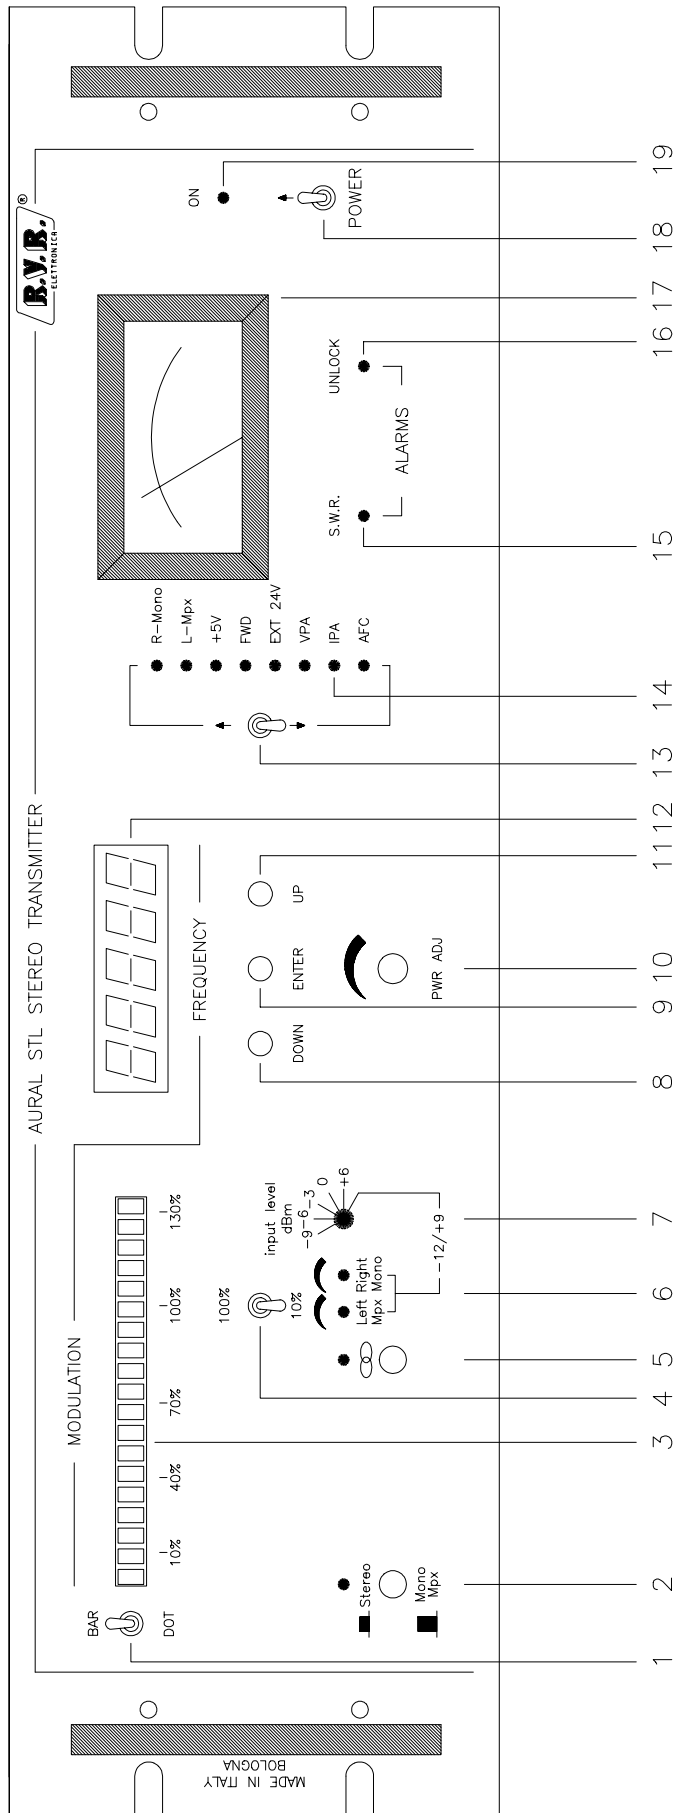
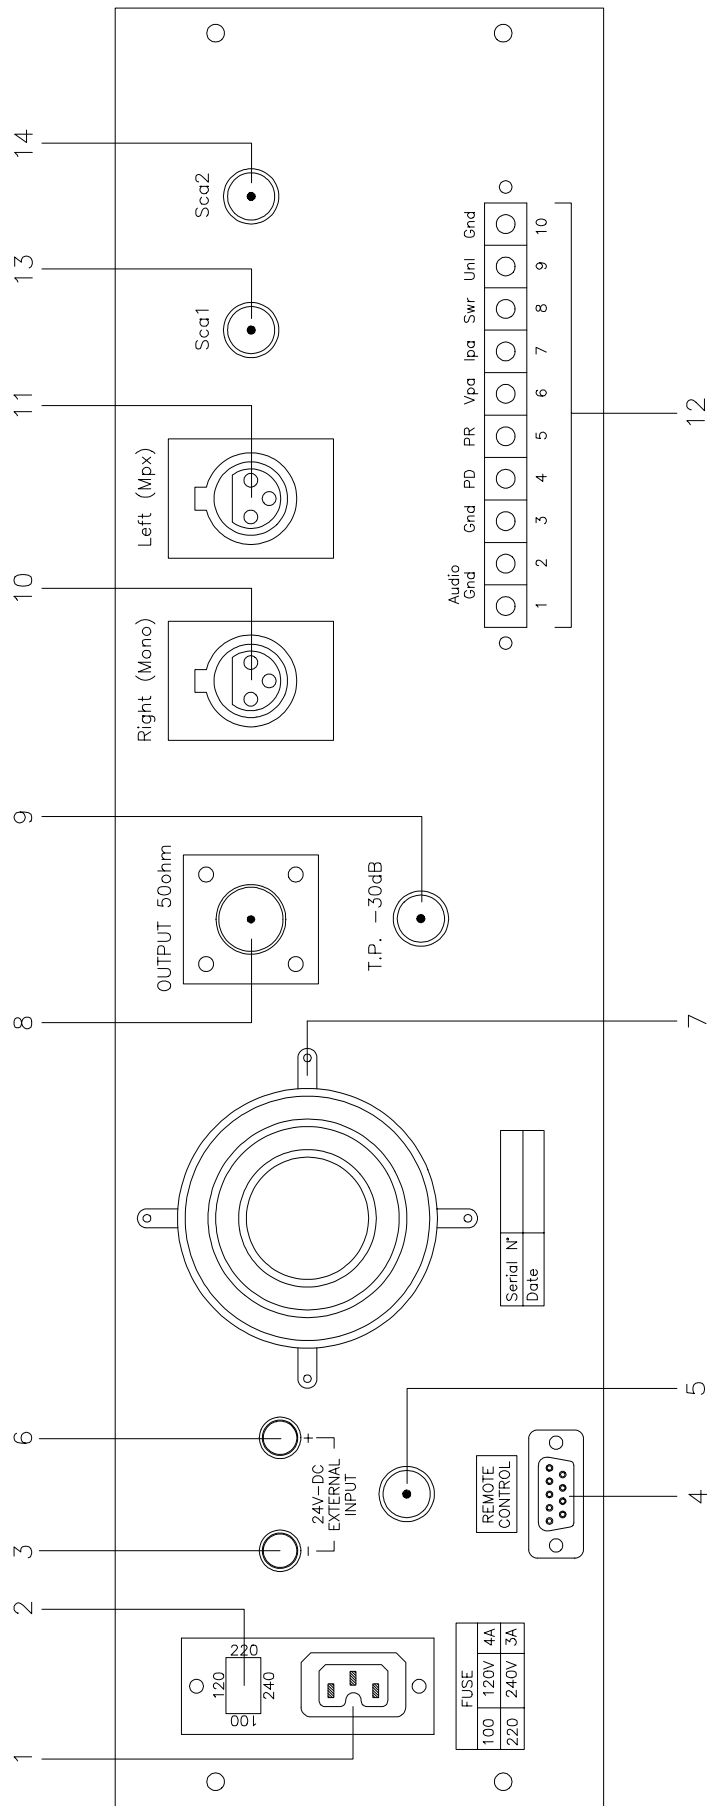

FIG. 1
FIG. 2
controls and saveable with the ENTER (9 Fig.1) control. Two alarm conditions leds provide indication of VCO unlocked (16 Fig.1) and excess standing waves on the output (15 Fig.1).
This circuit comprises two cards and a meter mounted on the right hand side of the front panel (Photo 1-2). This sub-assembly displays the values of various operating parameters of the transmitter: internal voltages and currents, direct power and external 24V. The parameters are selected by a lever switch (13 Fig.1) and the selection is indicated by the legend of the green led (14 Fig.1).
This circuit also features a red UNLOCK led (16 Fig.1) and a red SWR led (15 Fig.1), controlled by the power supply. In addition there are: a red power led (19 Fig.1), a power output PWR trimmer (10 Fig.1) and the mains supply switch (18 Fig.1).
## (Fig. 1)
## REAR PANEL VIEW (Fig.2)
First of all select the correct supply voltage using the selector situated on the rear panel; use a screwdriver to raise the cover (2 Fig.2) on which are written the various voltages, rotate it until the arrow points to the correct voltage and re-insert it.
- 2) Connect a 30 dB attenuator between the R.F. Output Connector (8 Fig.2) and power meter (see SETUP1 Fig.4).
- 3) Connect a switch, via a cable, to the INTERLOCK connector (5 Fig.2) on the rear panel so that the switch is able to short the central conductor to this screen and leave the switch in the short-circuit position.
- 4) Switch the power switch (18 Fig.1) to the OFF position.
- 5) Connect power to the unit via the VDE socket (1 Fig.2).
- 6) Switch the power switch to the ON position and check that the green POWER ON led (19 Fig.1), the red UNLOCK led (16 Fig.1) and the led corresponding to the parameter selection PWR FWD (14 Fig.1), are all lit.
After a few seconds the central display (12 Fig.1) will come on and display a number (eg. 1790.00) corresponding to the last operating frequency to have been programmed.
To change this number, use the UP (11 Fig.1) and DOWN (8 Fig.1) buttons to respectively increase it and decrease it.
Once the desired frequency has been found, press ENTER (9 Fig.1) to confirm and save it.
To make this measurement, ensure that the PWR ADJ led is on by setting the meter switch (13 Fig.1) to the corresponding position and then take the reading from the 50W FDS scale on the meter.
Set the modulation bar-graph display gain (4 Fig.1) to 100%. Connect a low-distortion audio frequency generator to the MONO input (10 Fig.2) or STEREO inputs (10-11 Fig.2).
Inject a 400Hz tone at a level of -10 dBm for the european version or 0dBm (775mV RSM = 2.2V peak to peak) for the american version. Check that the bar-graph display (3 Fig.1) lights upto the first red led, indicating 100% deviation.
With the DOT/BAR switch (1 Fig.1) in the BAR position, all the green leds and first red led will be on; in the DOT position only the first red led will be on.
Now disconnect the audio generator and ensure that all the bar-graph leds go out (3 Fig.1).
Set the control (4 Fig.1) to 10% and inject a 400Hz tone of -30dBm (-20 dBm for the american version) and repeat the proceeding operation. The procedure should be followed first for the MONO input and then for the STEREO input.